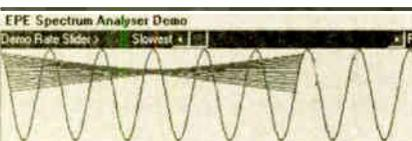

Fig. 15. Example of the sample spans in the first stage of analysis.
On the first round, the span between points is half the total number of samples (512). An example taken at an early stage when sampling a sinewave is shown in Fig. 15. The analysis relates the difference between the sample values to specific (pre-calculated) sine and cosine values. Each result is stored in sequence.